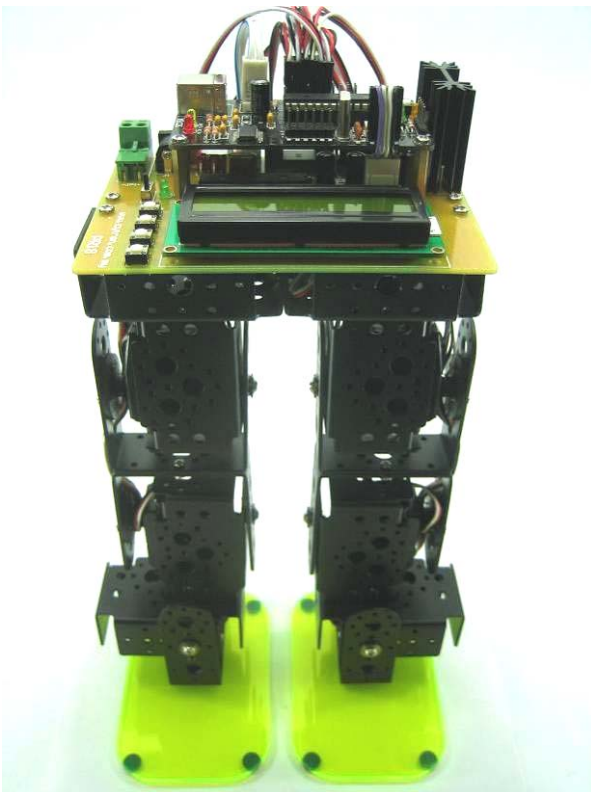

Figure 90
31. The completed biped is shown in figure 90.